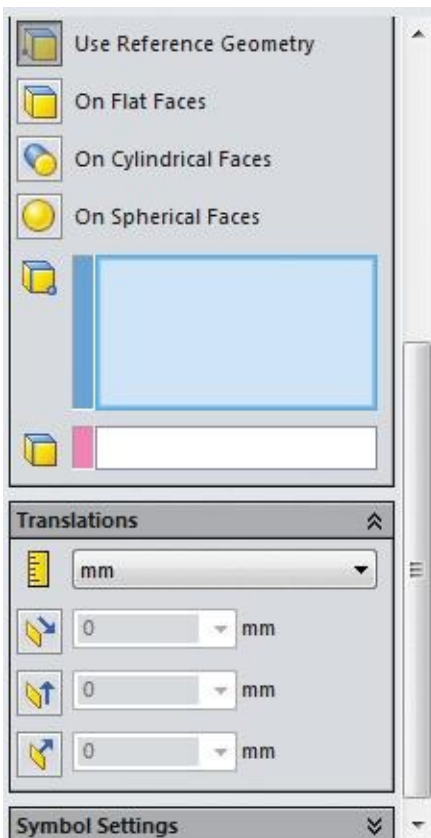

Figure-28. Fixture PropertyManager with Use Reference Geometry button selected
- Click on the **Use Reference Geometry** button from the **Fixture PropertyManager**. The options in the **PropertyManager** will display as shown in Figure-28.